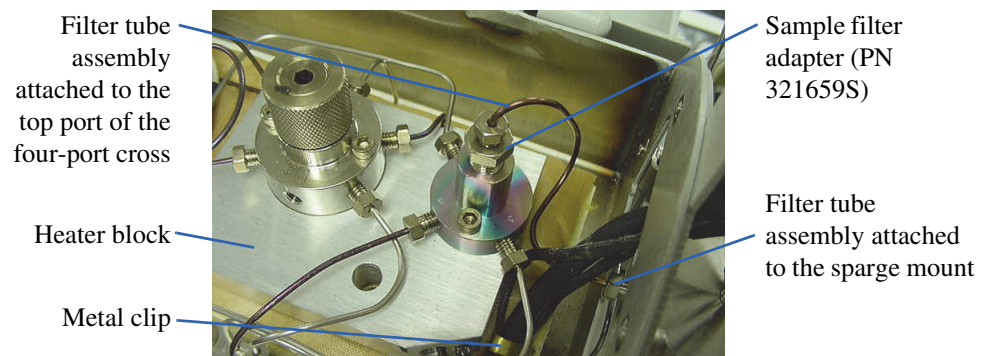

Figure 8.2. Top view of Eclipse plumbing
9. Remove the metal clip (PN 182287) holding the sparge mount thermocouple and heater wires in place, located behind the sparge mount. Access it from the top of the instrument through the open pneumatics access cover (Figure 8.2).
7. Attach the sample line (Figure 8.2).
11. Install the metal clip to bundle the wires together behind the sparge mount (Figure 8.2).